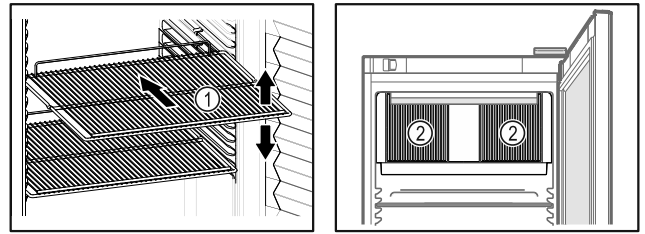

Fig. 75 Example illustration Fig. 76
- If there are adjustable shelves Fig. 75 (1), position them as required.